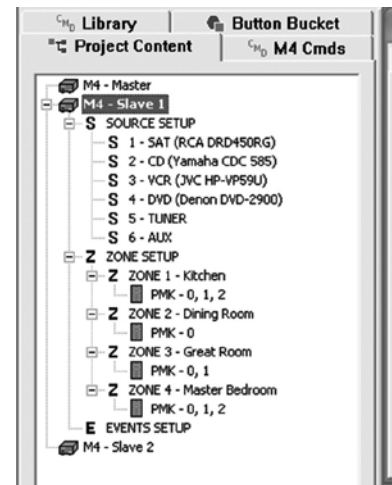

Figure 48 Customizing Slave Zones
- When you click **Apply**, three actions occur. First, **M4 (M6) - Master** will appear just under **Project Content**. Second, icons with **M4 (M6) - Slave 1, Slave 2**, etc., will appear at the bottom of the list. Refer to **Figure 48**. Third, all programming you have done on the Master is **cloned instantly** to the Slave units within Proficient Editor, saving you a great deal of programming time.
- For instance, to customize zones within Slave 1, click **M4 (M6) - Slave 1**. This places it just under the Master near the top. In this position, all changes made will apply to Slave 1 only. Refer to **Figure 48**.